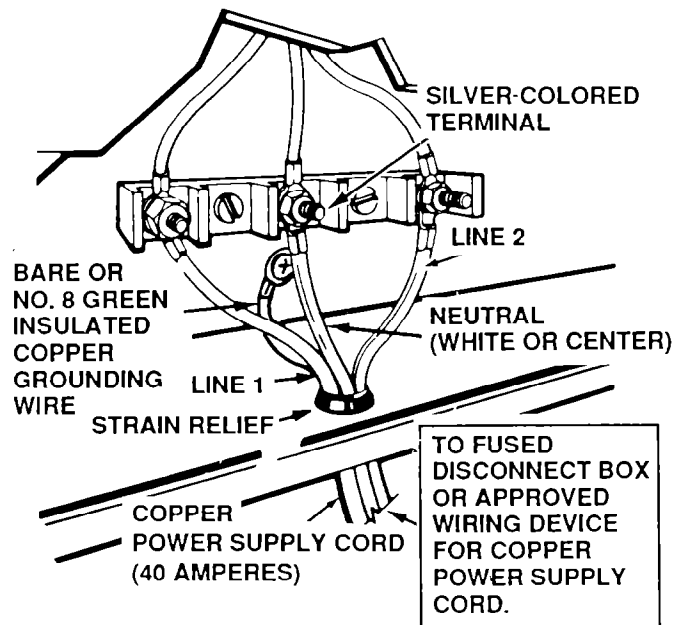
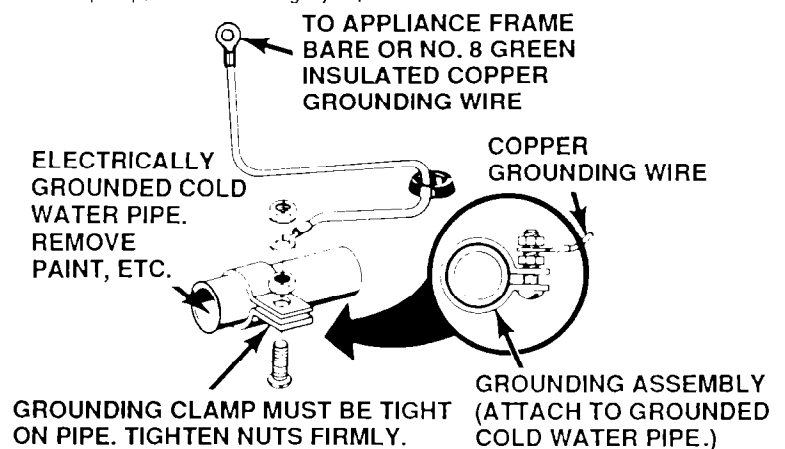

FIGURE 3
FIGURE 4
C. Connect the neutral wire of the copper power supply cord to the center silver-colored terminal of the terminal block and connect the other wires to the outer terminals. See Figure 3. Ring-type terminals must be used on the copper power supply cord wires.
D. Connect a separate insulated green-colored copper grounding wire (No. 8 minimum) to a grounded cold water pipe* by means of a clamp, and then to the frame of the appliance with the grounding screw, using the hole in the frame where the grounding strap was removed. See Figure 3. Do Not ground to a gas supply pipe or hot water pipe. Do Not connect the copper power supply cord to electric power until appliance is permanently grounded. See Figure 4.